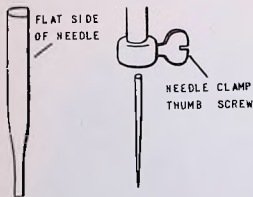

Fig. 8. To Set the Needle
Select a needle to fit the material to be sewn. See Chart on Page 7. To set needle in needle clamp, turn the hand wheel toward you until the take-up lever, (T) Page 2, reaches its highest position. Loosen thumb screw, Fig. 8, located on the needle clamp. BE SURE THE FLAT SIDE OF SHANK OF THE NEEDLE IS PLACED TOWARD THE RIGHT, OR TOWARD THE INSIDE OF MACHINE. See Fig. 8. Now insert the needle in the clamp as far as it will go and retighten thumb screw. This machine uses needles classified as AA, J, or 15x1 which can be obtained in various sizes for different size threads and purposes. See Chart on Page 7.